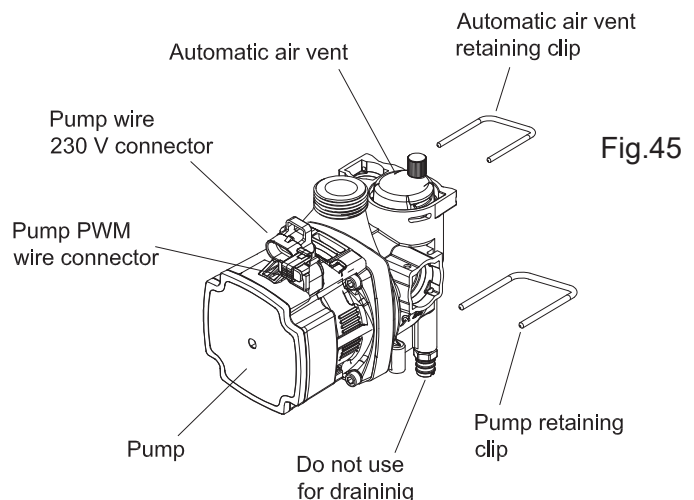

Fig.45
8.15 TO REMOVE/REPLACE PUMP (Fig.45)
8.16 TO REMOVE/REPLACE AUTOMATIC AIR VENT (Fig. 45)